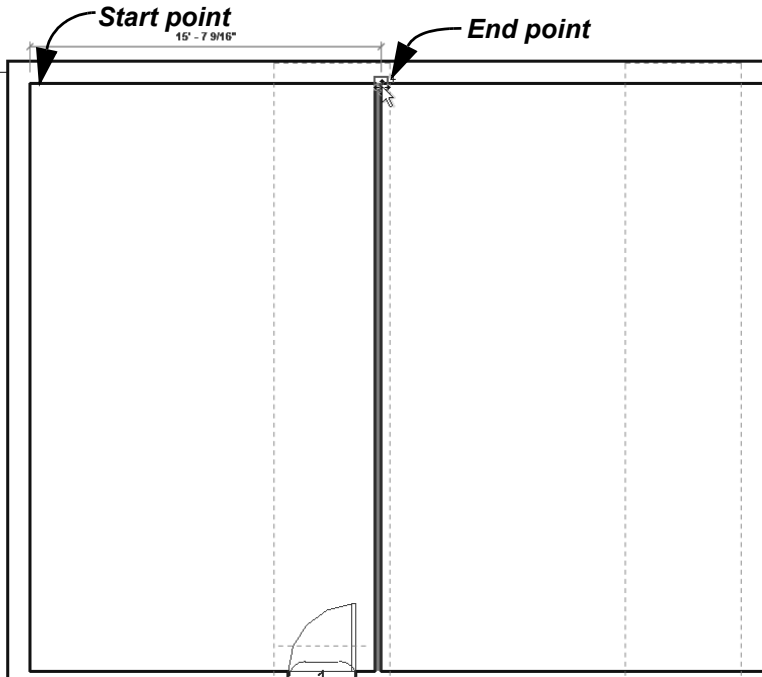

Figure 2-45
- 7. Select the start point and the end point, as shown in Figure 2-45. The wall, door, and door tag are copied to the right and the door tag displays **2**.